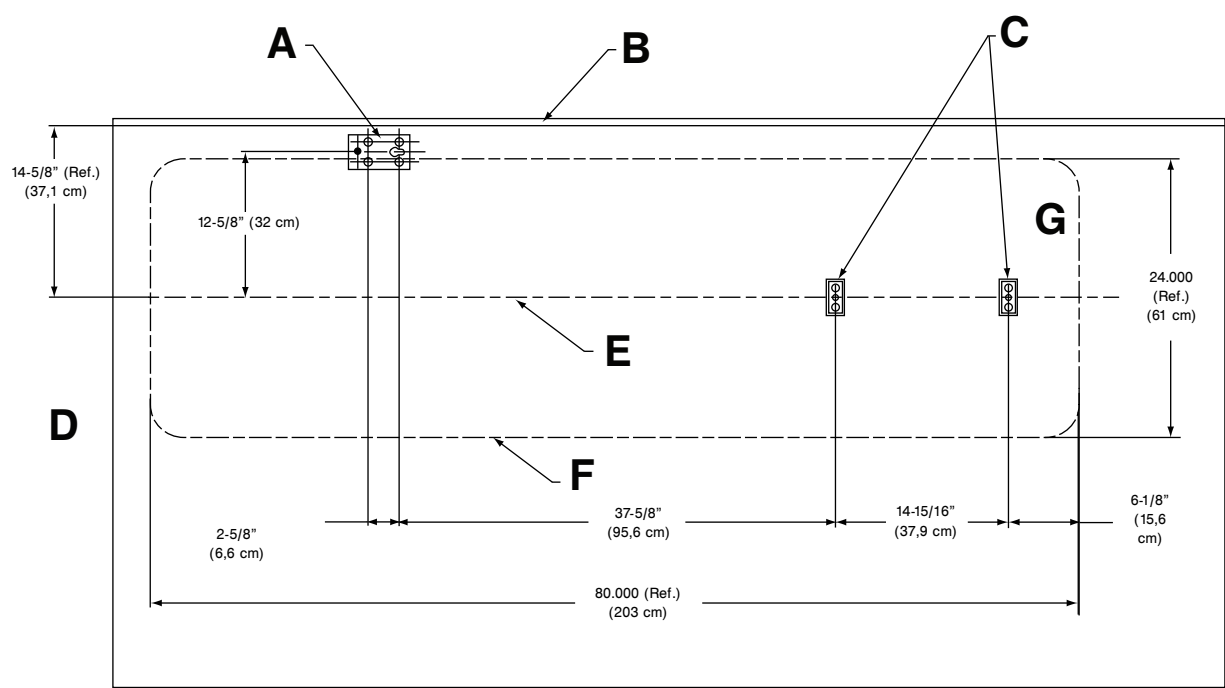
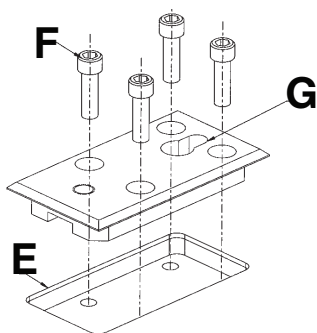

Figure 8 – Floor plate installation locations
Figure 11 – Floor plate anchor and locating points
2. Using the dimensions shown in Figure 8, locate and drill the points where the floor plates will attach.
5. Using the dimensions shown in Figure 8, locate and drill the four points where the rail support bracket floor plate will attach. Cut one 2 1/2 in. x 5 in. x 9/16 in. deep opening (E) into the floor centered over the locating points (Figure 11).
6. Using four 3/8 in. diameter socket head cap screws (F), anchor the floor plate into the recessed opening with the counter-bored holes facing up (G) (Figure 11). The keyhole should face toward the front of the vehicle.
- One set of additional floor plates is supplied with the Model 6377 fastener to allow alternate positioning anywhere on the patient compartment floor. Cot space requirements are the same as shown in Figure 8. Repeat the above procedure to install the alternate position floor plates.